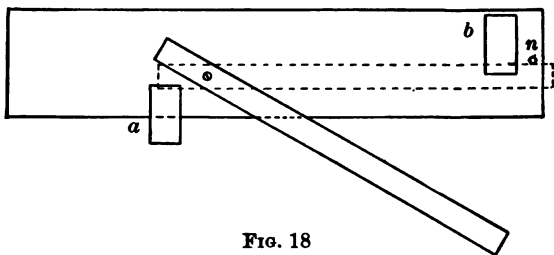

FIG. 18
93. Upon a narrow block of wood fasten a stick (Fig. 18) 5 inches long by a screw  $\frac{1}{2}$  inch from one end, upon which it may turn freely. Drive a wire nail at  $n$  to stop the stick
as it shall be snapped from such a position as the figure shows. Place blocks of wood,  $a$  and  $b$ , so that the moving stick will hit  $b$  a sharp blow and at the same instant gently push  $a$  over the edge. The object is to project  $b$  some distance, while  $a$  simply falls directly downward, both starting at the same time. With the blocks and the stick in position, as in Fig. 18, hold the whole with its upper face exactly horizontal, and then with the finger snap the stick towards  $n$ . Listen for the sound of the blocks striking the floor. Repeat several times and allow for the possible error in holding the block horizontally. Do the blocks fall through the same vertical distances in the same time? Is the effect of gravity upon  $b$  affected by the other (the projecting) force that acted upon it at the same time?